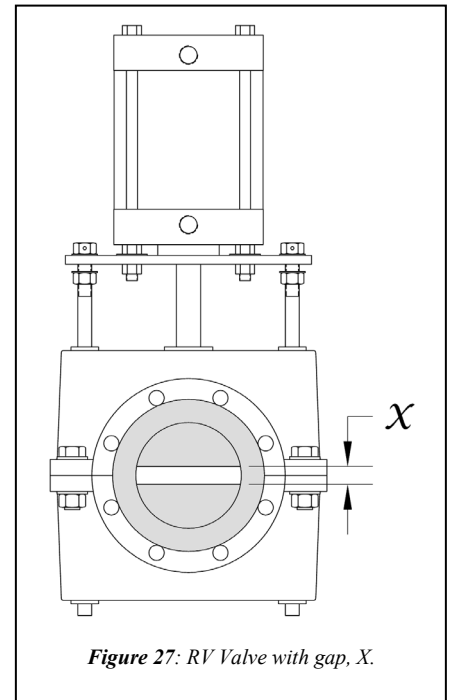

Figure 27: RV Valve with gap, X.
STEP 4: Actuate the RV Valve closed. Be sure to use sufficient supply pressure as indicated in STEP 1. After actuation the RV Valve will not close completely. There will be a gap, X, inside (Fig. 27).